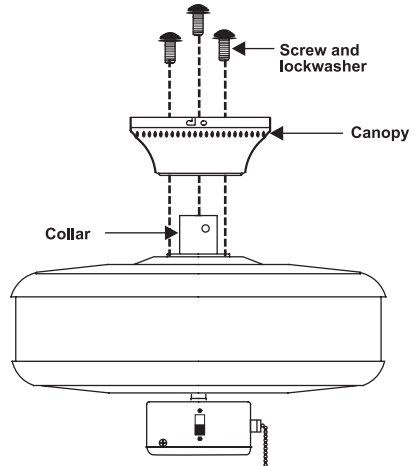

Figure 9
4. Place the ceiling canopy over the collar at the top of the motor. Align the mounting holes with the holes in the motor and fasten using the screws and lock washers provided (Fig. 9).
5. Tighten the mounting screws securely. (Fig. 9)